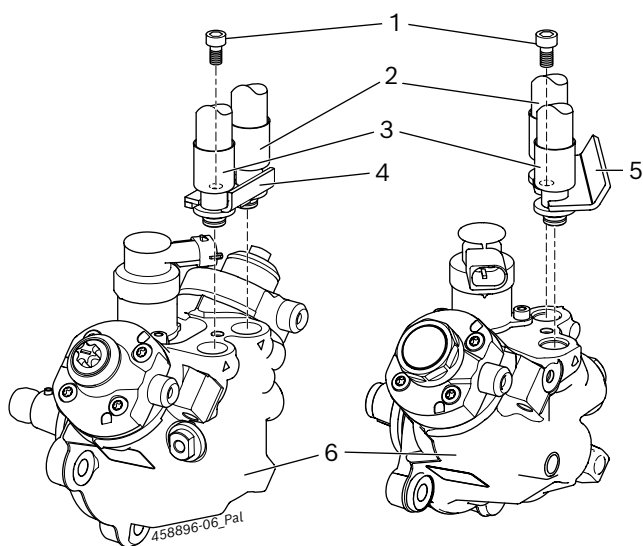

Fig. 4: CP4 test connection with mounting bracket
! For the test oil connection of the CP4, use the pump-specific hose assemblies 1 680 712 351 or 1 680 712 352. The hose assemblies are attached to the CP4 by means of the pump-specific mounting bracket 1 681 038 392 (fig. 4, item 4) or mounting bracket 1 681 038 430 (fig. 4, item 5) and the hex socket head cap screw M6 x 12 (fig. 4, item 1). The hose assemblies, mounting bracket, and hex socket head cap screw are included in the scope of delivery of parts set 1 687 016 125.
1. Connect hose assembly for test oil supply (Fig. 4, item 2) on the supply connection of the CP4.
2. Connect hose assembly for test oil return (Fig. 4, item 3) on the return connection of the CP4.
3. Fasten both hose assemblies to the CP4 by means of mounting bracket 1 681 038 392 (fig. 4, item 4) or mounting bracket 1 681 038 430 (fig. 4, item 5) and the hex socket head cap screw M6 x 20 (fig. 4, item 1).